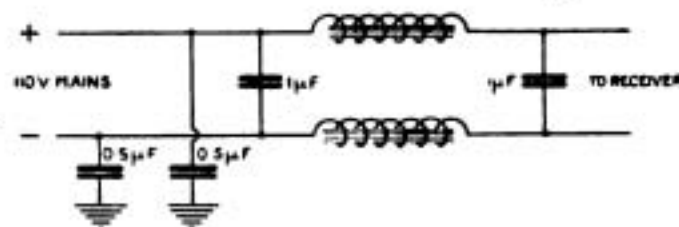

Fig. 2.
H.E.C. (Sheffield) asks re the "Single valve long range receiver" (1) What resistance telephones to use. (2) How to make a suitable telephone transformer. (3) If an R type valve can be used. (4) How to use a 110-volt lighting supply instead of H.T. batteries.
(1) 120 ohm telephones.
(2) See *The Wireless World*, March, 1920 issue p. 699.
(3) Yes.
(4) Unless you can silence the commutator noises on the 110 vs. supply the results will probably be disappointing. Connect condensers and iron-cored chokes in the circuit as shown in Fig. 2
S.W.W. (Forest Hill).—(1) The amount of wire required will depend on the size of your aerial, about which you say nothing. Assuming it to be full-sized P.M.G., try baskets, diameter of whose outside windings = 12 cms., inside windings = 2 cms., wound with No. 24. A single basket will do for 400 ms.; to increase wavelength add more side by side in series, the windings being in the same sense on each. For 16,000 ms. you will probably require 16-20, using a 0.002 mfd. condenser in parallel with the complete coil. The reaction coil may be one or two baskets of similar size wound with No. 28.
(2) See Fig. 2, page 853, March 5th issue.